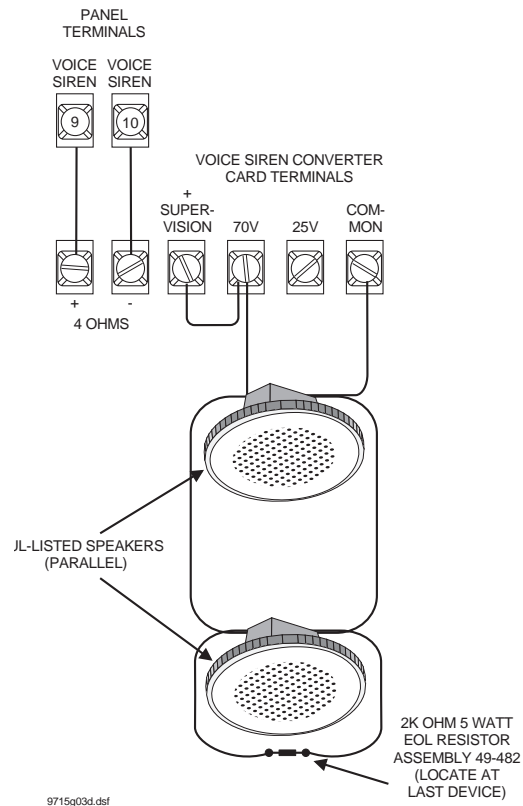

Figure 3. Typical Advent Panel Card Wiring
- Wire the card to the panel and voice sirens as shown in Figure 3.